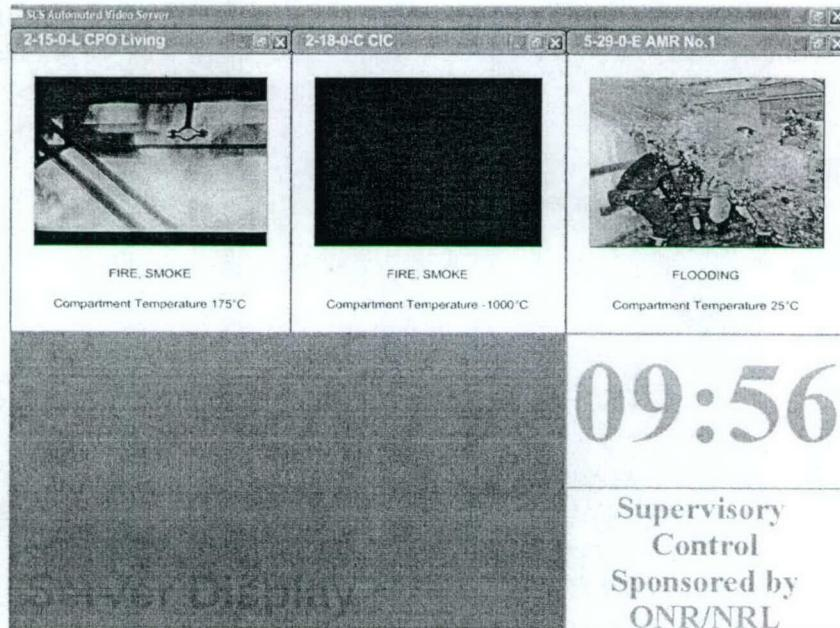

Figure 7-1. SCS Video Server
The Video Server Display is designed to manage the live video streams from cameras located throughout the ship. (See Figure 7-1.) The display has the capability to show five (5) simultaneous videos. There is a video hardware limitation of displaying one camera at a time from each of the distributed video collection boxes. The videos are posted along with a summary of relevant information. The video server selects key videos for the operator to see and the operator can add or remove any video. The operator has no user interface for this display but remotely controls the videos through the Compartment Context Menu for each compartment in the SCS Display. (See Section 5, SCS Display, "Compartment Context Menu" for more information.)